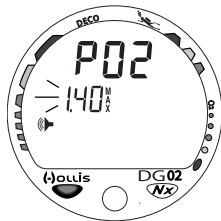

Fig. 26 - Set PO2 Alarm
- While the Surface Sequence is scrolling, depress the button until the Set PO2 screen appears with the Set Point flashing (Fig. 26), then release the button; or when the screen appears after having set Date.